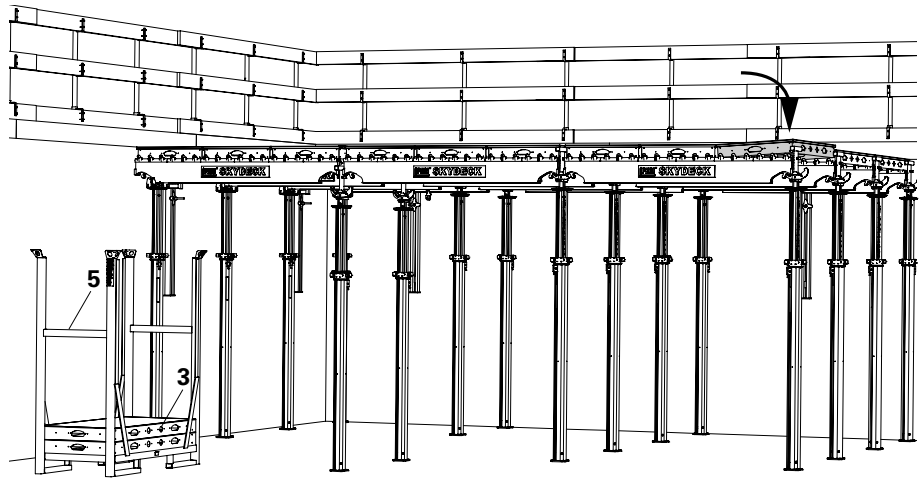

Fig. A4.18
Set down Pallet SD (5) with panels (3) onto the forming area. Place panels in the main beams. Make empty pallets available in preparation for the striking process. (Fig. A4.18)
3. Continually insert Cover Strip SAL (4).